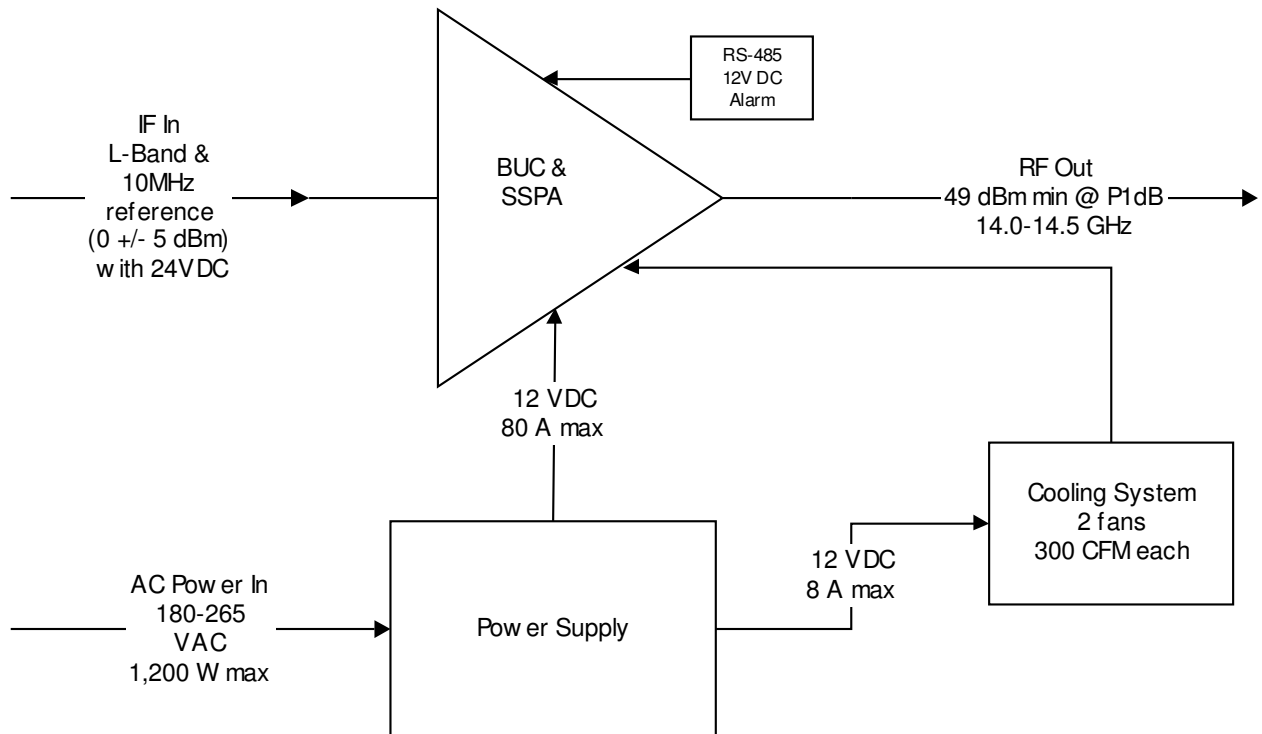

Figure 2 - System Block Diagram
Figure 2 block diagram illustrates the transmitter module.
- 12 VDC, 4 A maximum to the cooling system fan. Refer to Figure 2